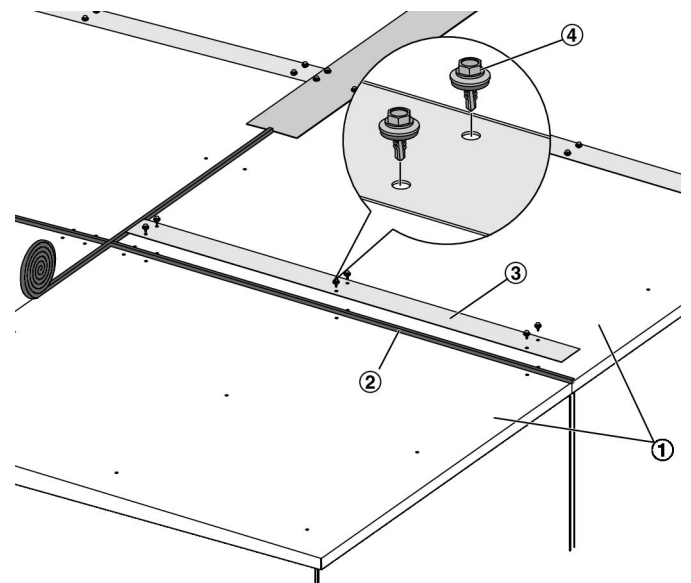

Fig. 21: Joining roof segments
- ① Roof segments
- ② Self-adhesive joint sealing tape
- ③ Cover strips
- ④ Self-drilling screws with sealing washers
1. ▶ Seal all joints between the roof segments ( Fig. 21 /1) with self-adhesive joint sealing tape ( Fig. 21 /2). Follow the tape manufacturer's instructions for use. Attach the cover strips ( Fig. 21 /3) and fix them with self-drilling screws ( Fig. 21 /4).